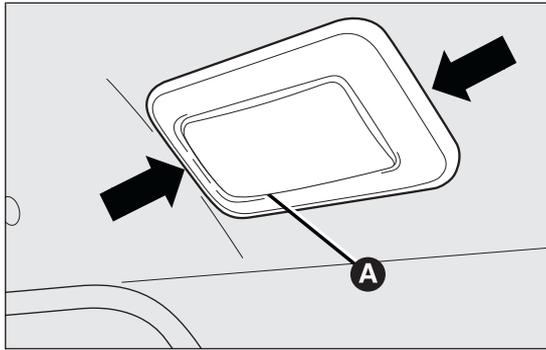

fig. 152
- extract the ceiling light A fig. 152 by operating in the points shown by the arrows;